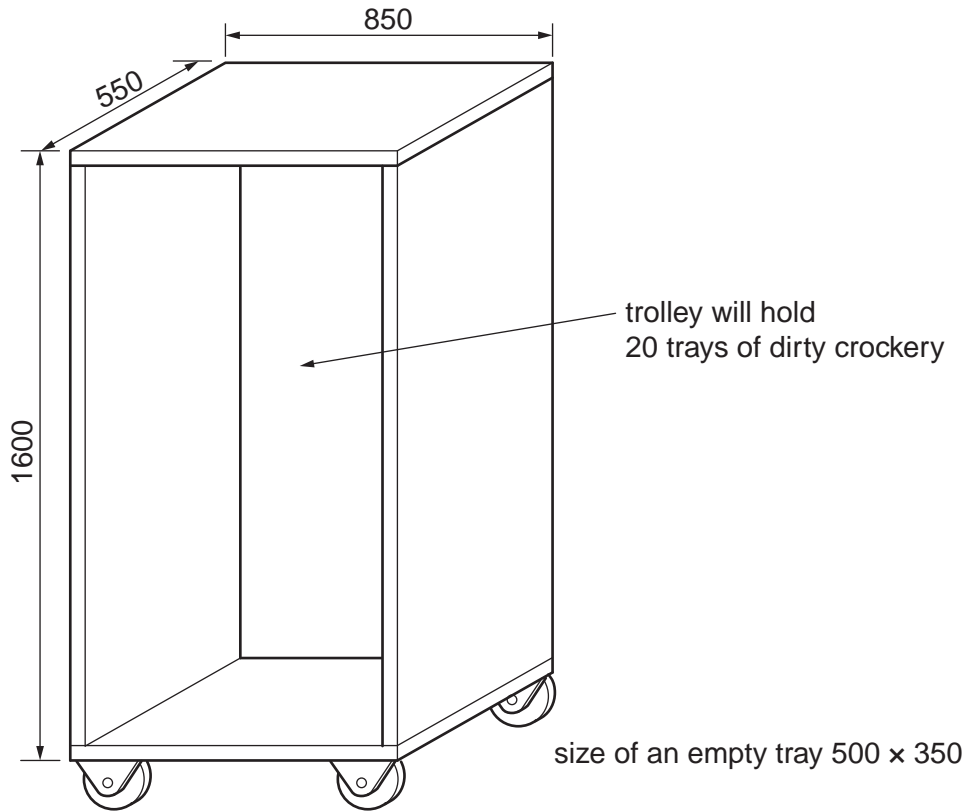

Fig. 9
- 9 Fig. 9 shows an incomplete idea for a tray-clearing trolley. Students using a school canteen will return trays, crockery and litter to the trolley.